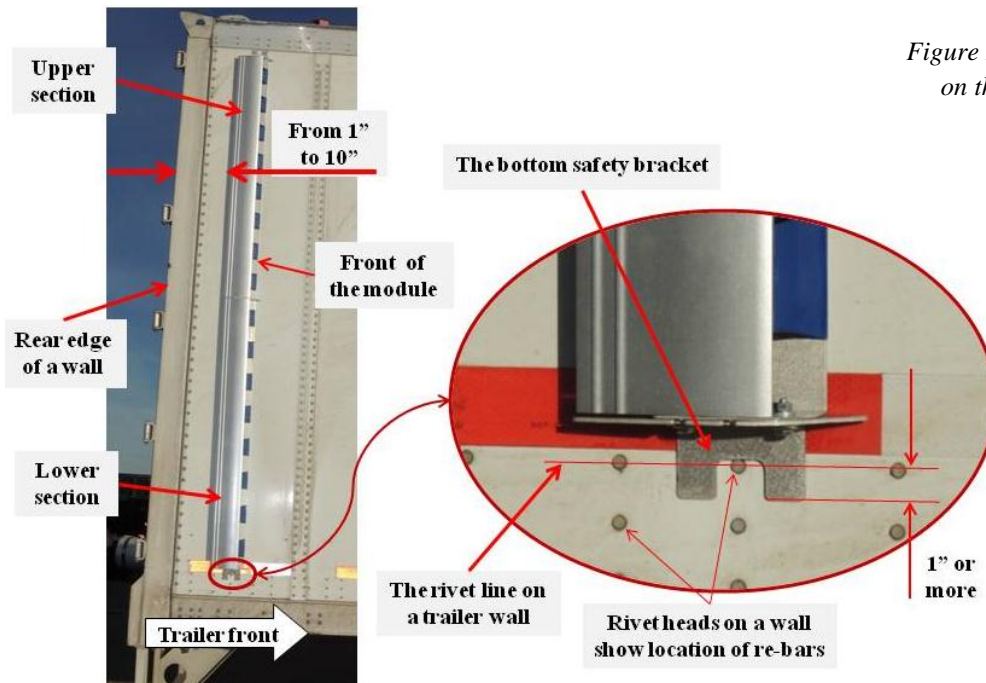
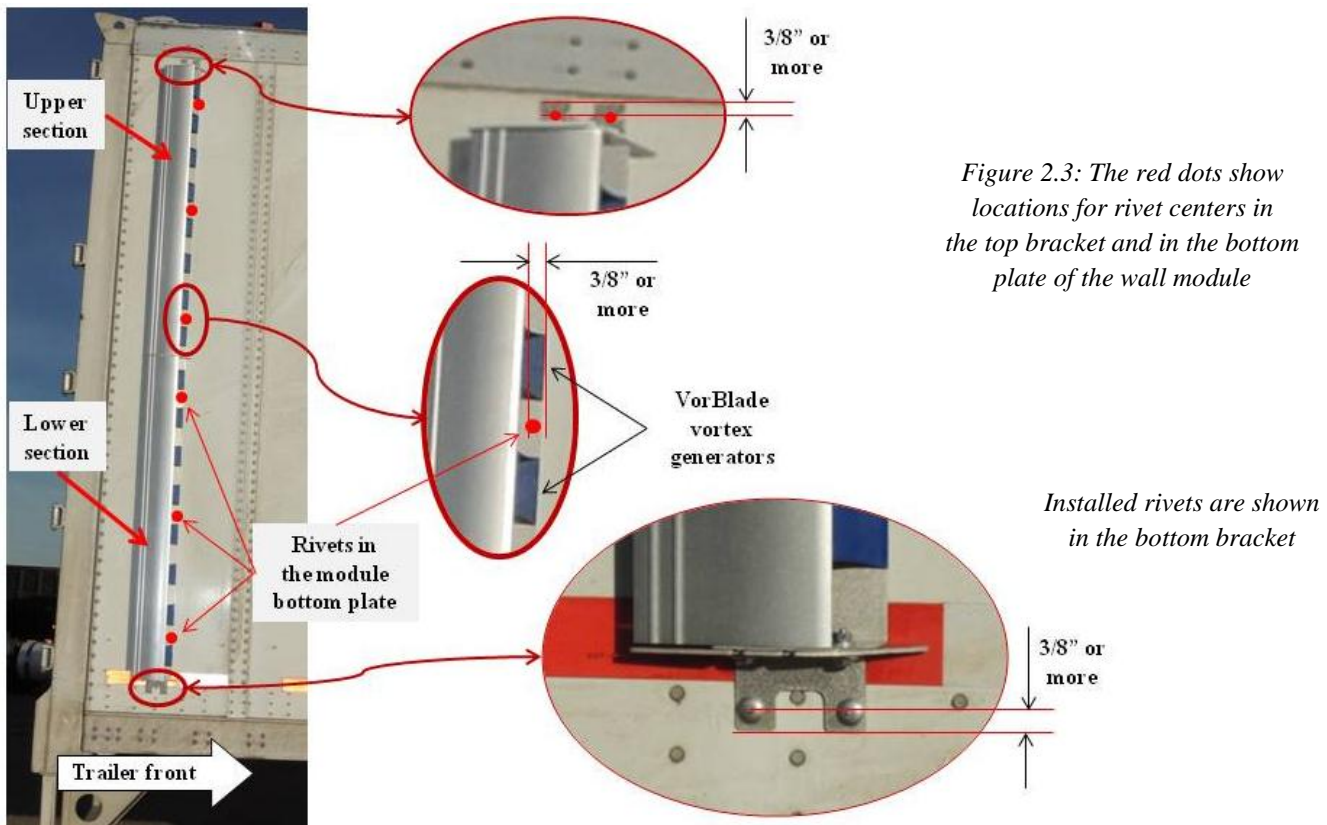

Figure 2.2: Positioning the wall module on the passenger-side trailer wall
Figure 2.3: The red dots show locations for rivet centers in the top bracket and in the bottom plate of the wall module
2.2.1: Lift the assembled wall module and place it vertically near the rear edge of the passenger-side wall, the module front towards the front of a trailer; Figure 2.2. Please handle the module properly as illustrated in Figure 1.4.
2.2.2: Position the rear edge of a module at a distance from 1” to 10” from the rear edge of a trailer wall; Figure 2.2. Make sure that the bottom surfaces of the sections are located on a flat trailer wall. Do not place sections over rivet heads or other obstacles.
2.2.3: Position the module at the proper height to ensure durable and reliable riveting to a wall. The outer “skin” of most trailers is riveted to re-bars inside trailer walls and the rivet heads on the wall indicate locations of the re-bars; Figure 2.2. Adjust a height of the module so the lower edge of the bottom bracket is 1” or more below the upper rivet line as illustrated in Figure 2.2.
2.2.4: If needed, move the module slightly back or forth so the bracket “ears” lay on the trailer wall and between rivet heads as shown in Figure 2.2. Do not place the safety brackets on top of the rivets.
2.3.1.1: Check carefully the chosen position of the wall module: a distance from the trailer rear edge shall be between 1” and 10”, the trailer doors shall be able to open far enough for a normal trailer operations and the bottom bracket should be riveted to the re-bar inside the trailer sidewall if possible; Figure 2.2.
2.3.2.1: Choose locations for the centers of 2 rivets in the bottom safety bracket and 2 rivets in the top bracket. Make sure that the centers are at a distance of 3/8" or more from the edge of the bracket "ears"; Figure 2.3.
*It is preferable to rivet the bottom bracket to a re-bar inside a trailer wall. The rivets in the bracket shall preferably be placed on a rivet line on a trailer wall (the line is indicated in Figure 2.2) or as close to the line as possible as illustrated in Figure 2.3.*
2.3.2.2: Choose locations for the centers of 6 rivets in the bottom plate of the module as illustrated in Figure 2.3 - 3 rivets per section. Make sure that the centers are at a distance of 3/8" or more from the front edge of the plate.
*There are 8 vortex generators in each section A and 7 spaces between the generators. To ensure durable attachment, the evenly spaced locations for rivets in the bottom plate of the wall module are preferable. Such evenly distributed rivets in the 1st, 4th and 7th spaces between the generators are illustrated in Figure 2.3.*
2.3.2.6: Install 2 long-grip closed end blind rivets P in the holes in the bottom safety bracket with a rivet gun; the heads of installed rivets are shown in Figure 2.3.